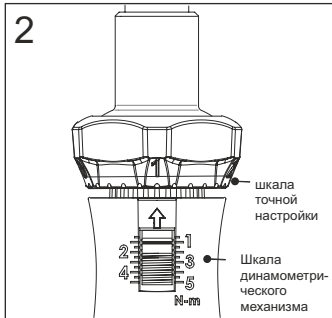

Рисунок 2 / Figure 2 (шкала точной настройки / fine adjustment scale, шкала динамометрического механизма / dynamometric scale)
Set an integer value from the desired torque on the scale of the dynamometric mechanism (3) and a value after the decimal point on the fine adjustment scale on the fixing nut (2). On the scale of the fixing nut (2) there are marks in increments of 0,02 N·m (Figure 2).